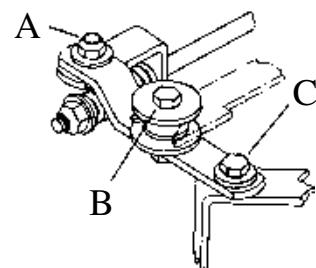

Figure 6.15 Autodrive neutralising adjustment
6. Remove nut (A) securing neutral rod bracket to neutralising arm. Figure 6.15.
3. Remove neutralising arm pivot bolt (C) Figure 6.15.
2. Loosen bolt (B) and move bolt and bearing in slot to centralise drive assembly in neutral position and retighten bolt. Figure 6.15.